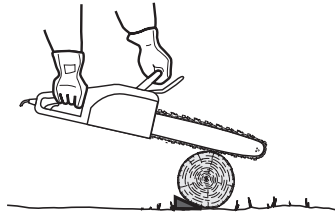

Fig. 37
6. If the wood diameter is large enough for you to insert a soft bucking wedge without touching the chain, you should use the wedge to hold the cut open to prevent pinching (Fig. 37).